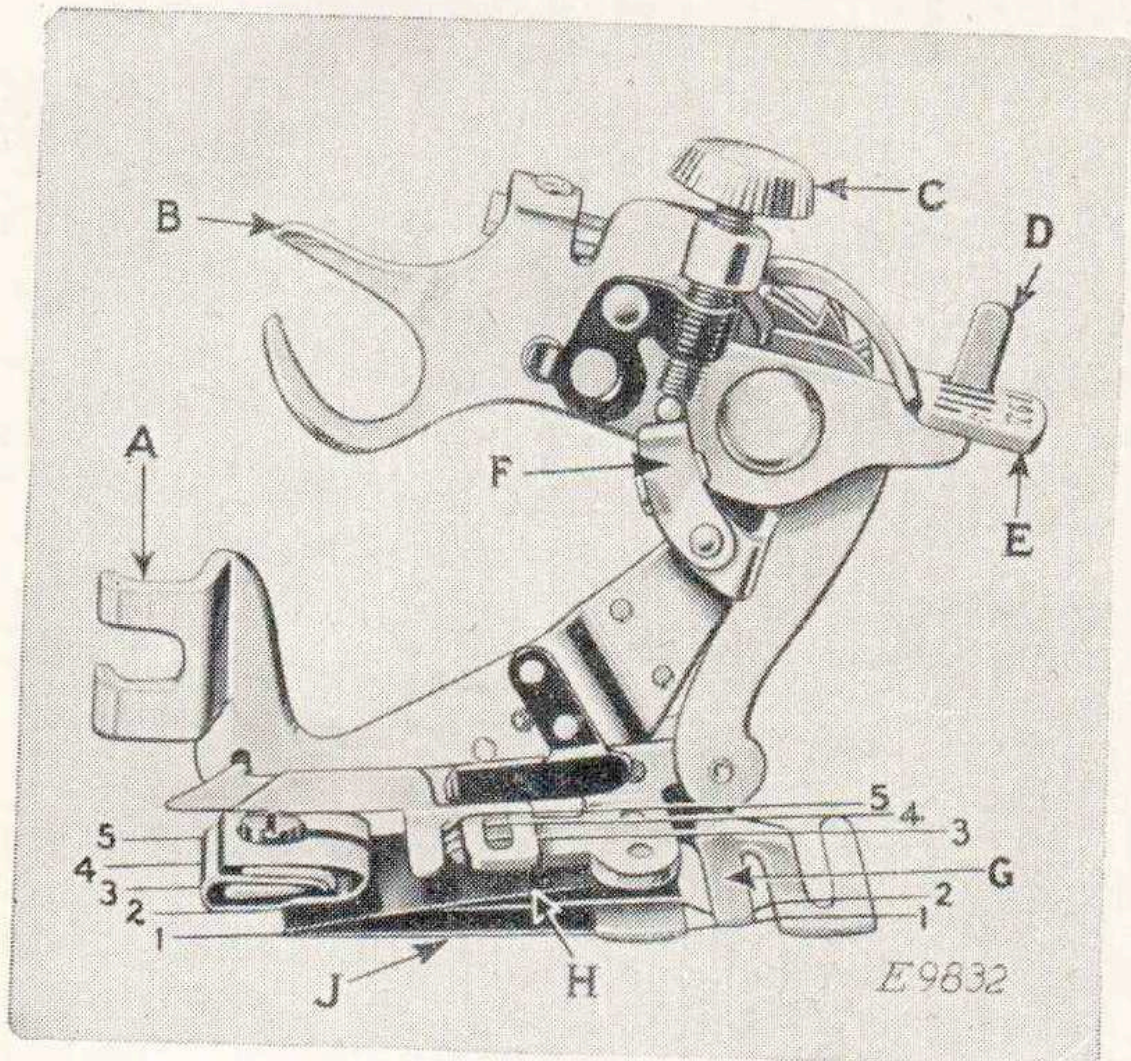
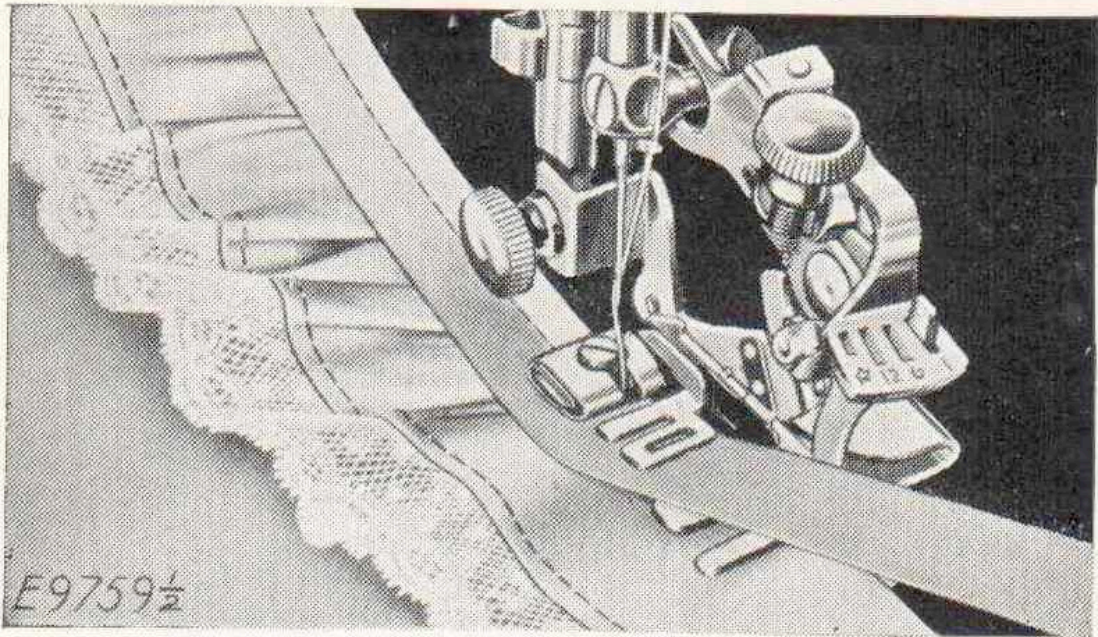

FIG. 42. THE RUFFLER AND ITS PARTS.
FIG. 45.
Lines 1, 2, 3, 4 and 5 in Fig. 42 indicate where the material is to be placed for various operations, as follows:
Refer to Fig. 42 when inserting the material in the ruffler.
The names and uses of the principal parts of the ruffler are as follows, see Fig. 42 :
Raise the adjusting lever (E) and move it to the left so that the projection (D) will enter the slot marked "I" in the adjusting lever (E) when the lever is released. The ruffling blade will then move forward and back once at every stitch. Insert the material to be ruffled between the two blue blades, following the line 2 in Fig. 42. Draw the material slightly back of the needle, lower the presser bar and commence to sew.
2 (Fig. 42). Place the garment to which the ruffle is to be attached, under the separator blade, following the line 1 (Fig. 42). Proceed the same as for gathering.
Insert the material to be ruffled between the two blue blades, following the line 2 (Fig. 42). Place the garment to which the ruffle is to be attached under the separator blade, following the line 1 (Fig. 42). Place the material for the facing over the upper blue blade, as shown in Fig. 45, following the line 3 (Fig. 42). The facing may be straight or bias material. If the facing is to be on the right side of the garment, place the garment and the ruffle so that the wrong sides are together. If the
Insert the material to be ruffled between the two blue blades, following the line 2 (Fig. 42). This
The material for piping must measure about $\frac{1}{4}$ inch wide when folded in the centre and is usually cut on the bias. Place the piping material in the ruffler, following the line 4 (Fig. 42) with the folded edge of the piping to the right. The material to which the piping and ruffling are to be sewn should be folded on the edge and inserted in the ruffler, following the line 5 (Fig. 42).
marked "6" in the adjusting lever when the lever is released. The ruffling blade will then move forward and back once at every six stitches. To adjust the ruffling blade to make a plait once at every twelve stitches, place the adjusting lever (E) so that the projection (D) enters the slot marked "12" in the adjusting lever. Insert the material to be plaited between the two blue blades, following the line 2 (Fig. 42). The size or width of plaits is regulated by the adjusting screw (C) and the